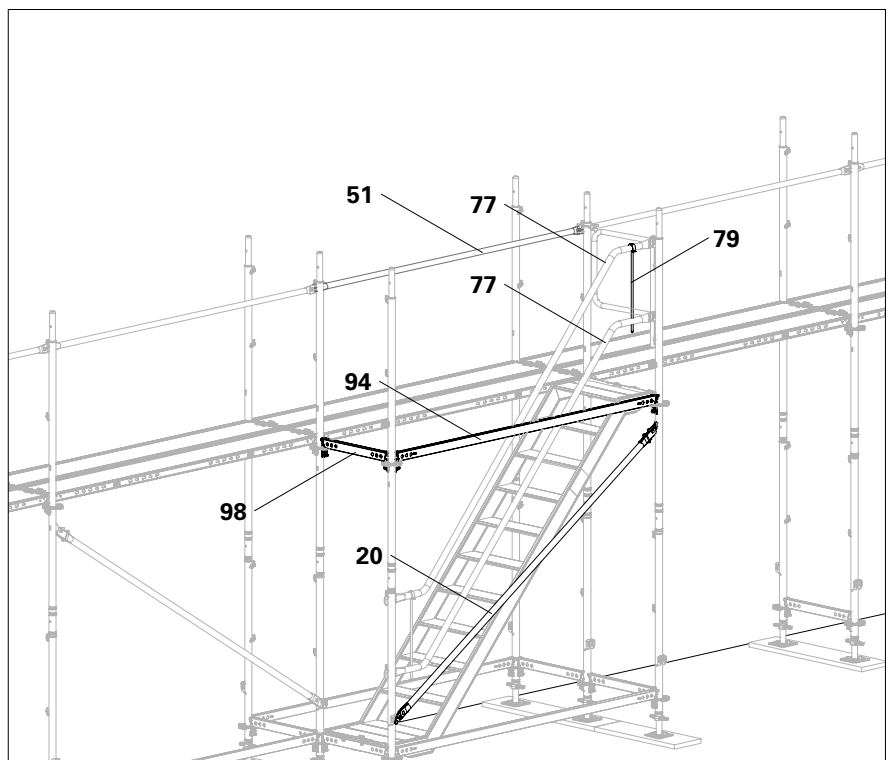

Fig. B8.05
- The first staircase is now installed. (Fig. B8.05)